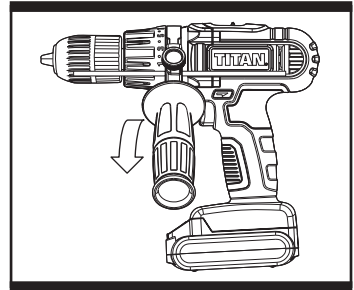

Fig. 11
6. INSTALLING THE AUXILIARY HANDLE (Fig. 11)